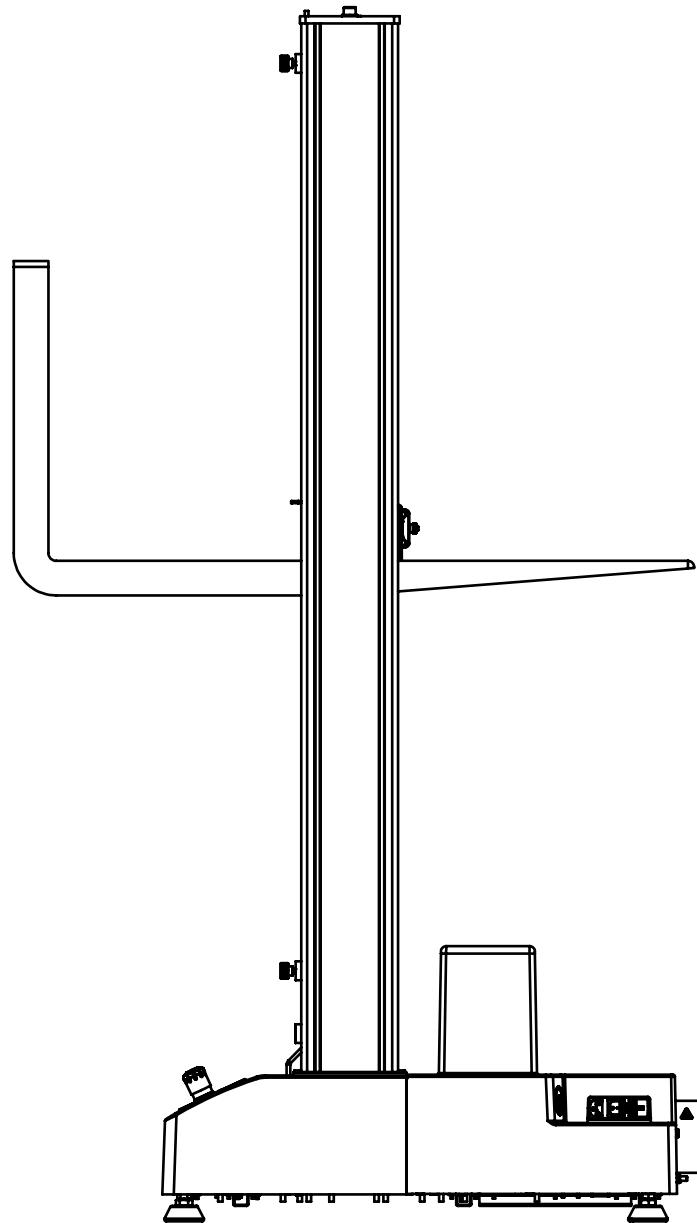

Figure 10. Lifting the Frame from the Crosshead
2. Using a forklift with padded forks or protective material around the crosshead, carefully insert the forks under the crosshead between the columns. See Figure 10 on page 62.